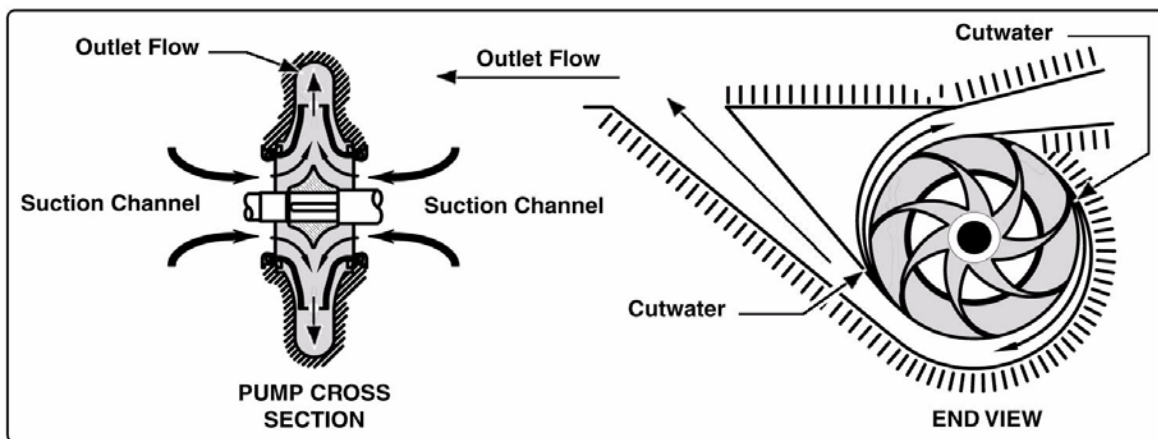

Figure 2-2: Water Flow, Typical Hale Single-Stage Pump
Hale single-stage pumps use a one (1) impeller to develop the required volume and pressure. (See Figure 2-2: “Water Flow, Typical Hale Single-Stage Pump.”)